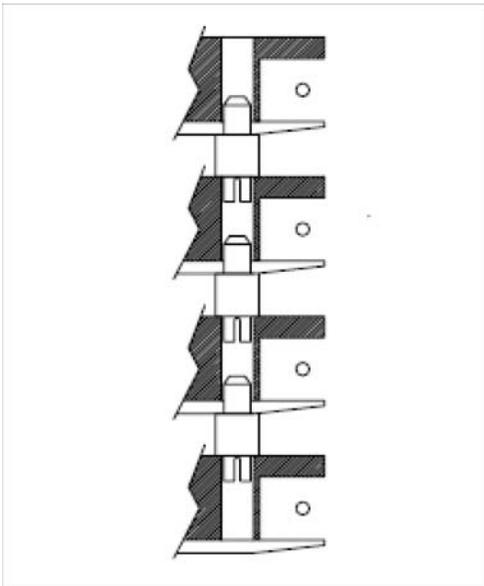

Figure 3: Tie-Down Assembly
- [C] After Facility Pallets are stacked as shown on Attachment 1, Figure 3, pull onto the transporter.